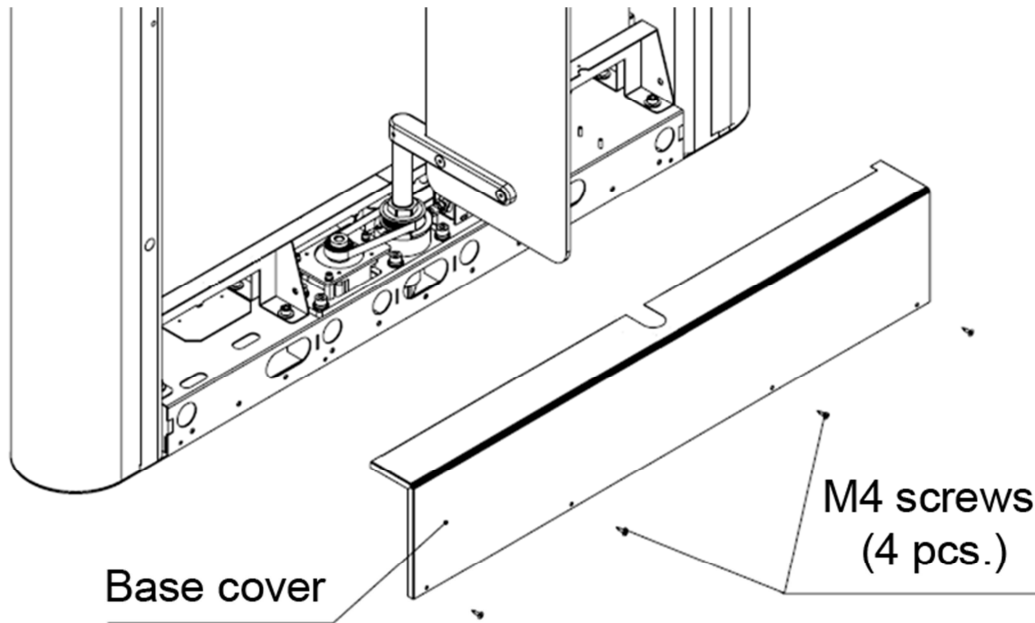

Fig. 6 Installation diagram of side unit
4.2.7. Set the side units of speedgate on a prepared site. Unscrew the 4 units of M4 screws and remove the base cover (Fig. 6).